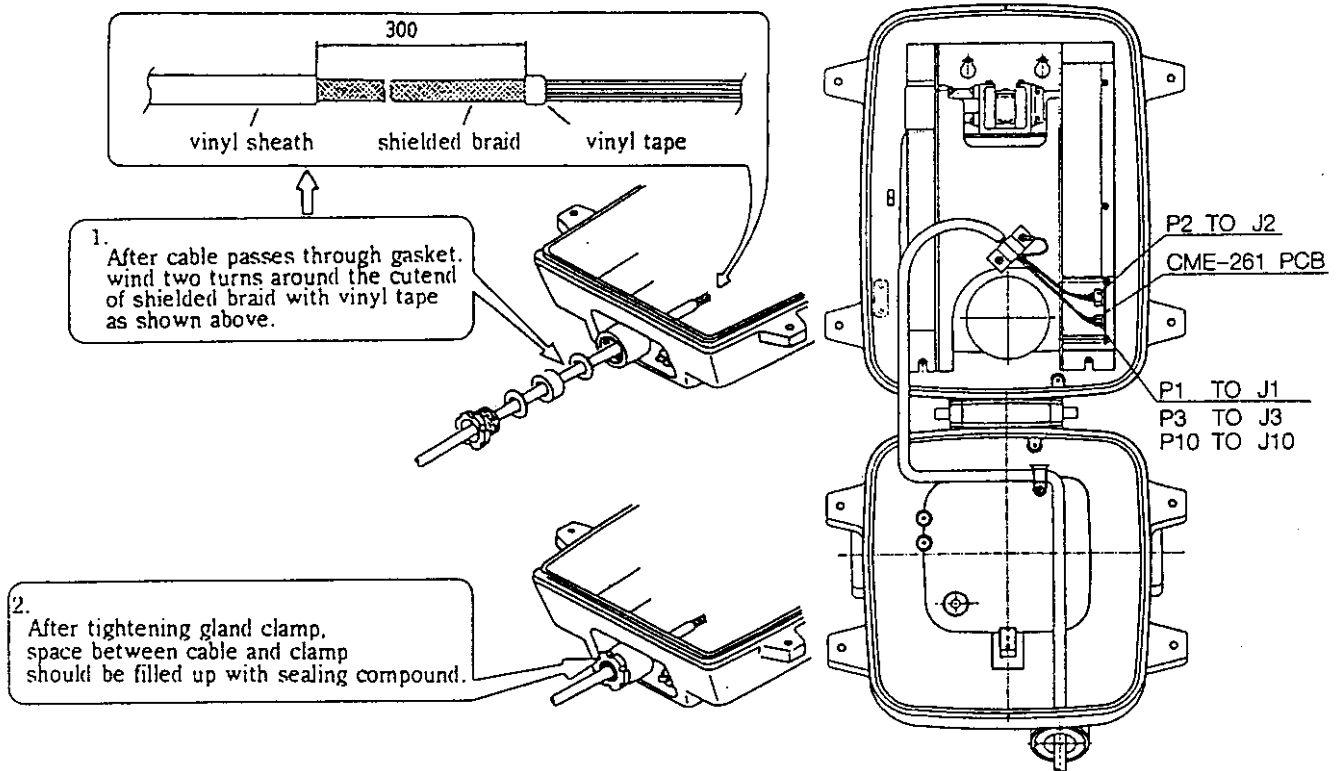

Fig. 2-8 ANTENNA PEDESTAL UNIT CABLE CONNECTION PROCEDURE
The cable inlet of the antenna pedestal unit is located in the right rear corner of the pedestal base assembly (see Fig. 2-8). Verify whether the interunit cable is already connected at the display unit. If connected, disconnect the 24-pin connector before installing the cable at the pedestal to prevent any live voltages on the cable wiring.
- 3) Insert the gland nut washers and rubber gasket on the cable as shown in Fig. 2-8. Screw the gland nut loosely into the cable gland.